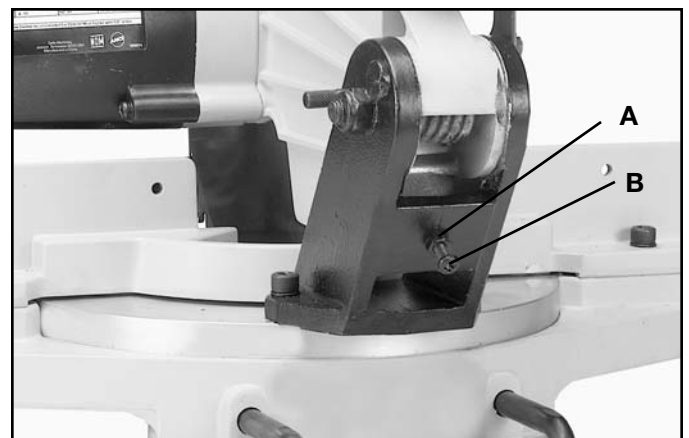

Fig. 19
Before adjusting downward travel, **DISCONNECT THE MACHINE FROM THE POWER SOURCE** and lower the blade as far as possible. Rotate the blade by hand to make certain the teeth do not contact any metal surfaces. This adjustment is made by loosening lock nut (A) Fig. 19, and turning the adjusting screw (B) in or out until the blade lowers to the desired position. Then tighten lock nut (A).